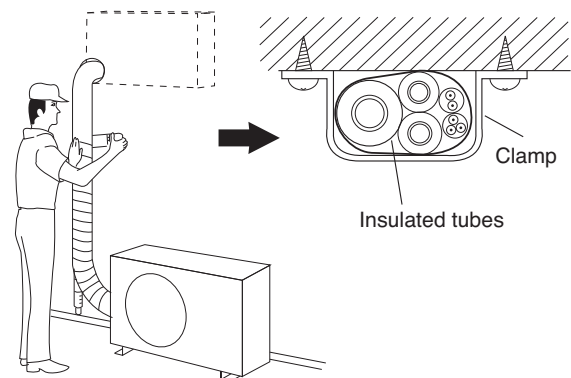

Fig. 33
- Wrap the armoring tape from the bottom of the outdoor portion to the top of tubing where it enters the wall. As you wrap the tubing, overlap half of each previous tape turn. (Fig. 33)